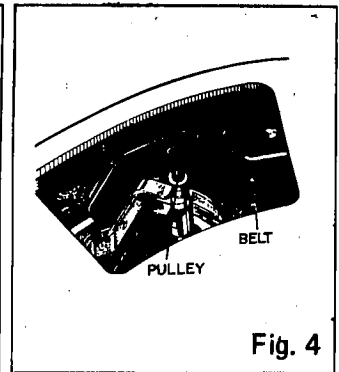

Fig. 4
- b. Attach the platter to the turntable shaft. Then hold the belt and put it on the motor pulley. Make sure not to twist the belt. (Fig. 4)